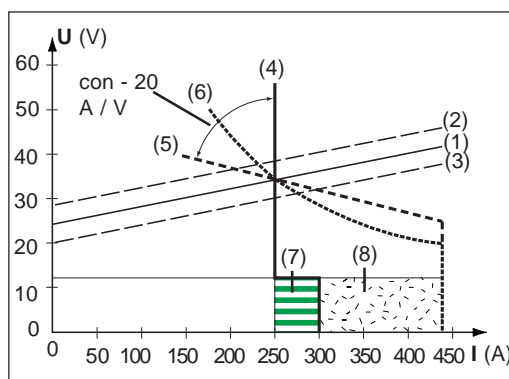

Fig.26 Characteristics that can be selected using the “ELn” function
- (1) load line for rod electrode
- (2) load line for rod electrode where arc length is increased
- (3) load line for rod electrode where arc length is reduced
- (4) characteristic where “con” parameter is selected (constant welding current)
- (5) characteristic where “0.1 - 20” parameter is selected (falling characteristic with adjustable slope)
- (6) characteristic where “P” parameter is selected (constant welding power)
- (7) example of pre-set arc force where characteristic (4) is selected
- (8) example of arc force (when set to a sufficient value) where characteristic (5) or (6) is selected
**Additional explanations (fig.26)**